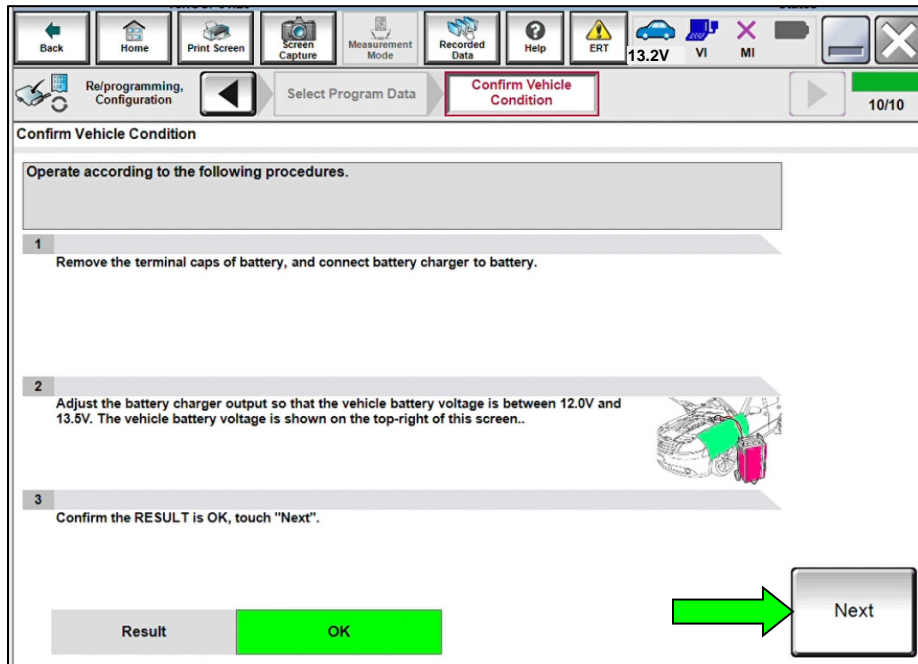

Figure 14
**HINT:** If the battery voltage result in Figure 14 shows "NG", verify the battery charger cables are connected properly at the battery and the charger is turned ON.